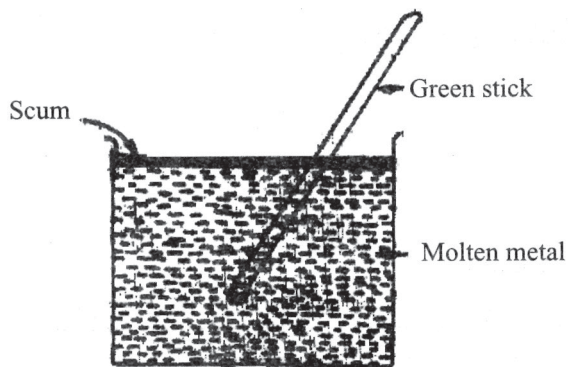

Fig. 18.7 : Poling
- (ii) *Poling*: Poling involves stirring the impure molten metal with green logs or bamboo. The hydrocarbons contained in the pole reduce any metal oxide present as impurity. Copper and tin are refined by this method (Fig. 18.7).